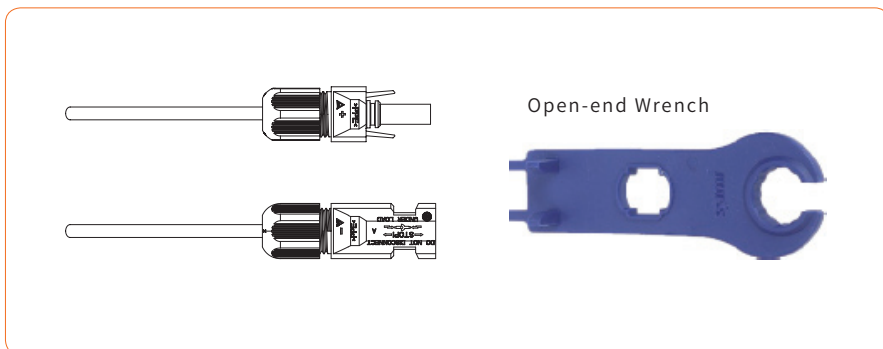

Figure 4-20
⑤ Insert the positive and negative cables into the corresponding positive and negative connectors, pull back the cable to ensure that the terminal is tightly attached in the connector.
⑥ Use an open-end wrench to screw the nut to the end to ensure that the terminal is well sealed, as shown in Figure 4-20: